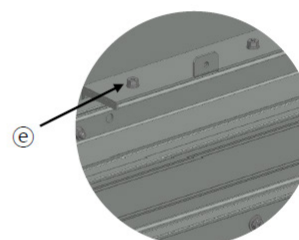

Figure 39. Fixing bolts
5. Lock four pair of the fixing bolts. (Figure 39, e)